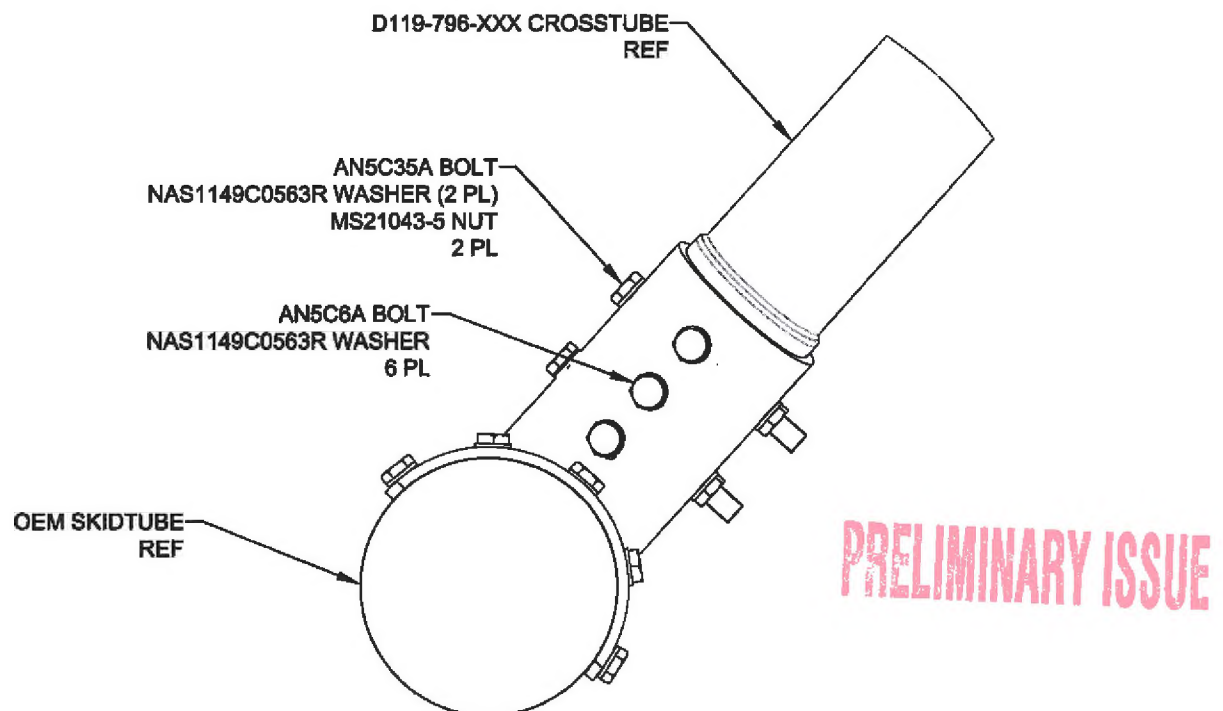

Figure 3.2 – Installation of D119-796-XXX Crosstubes to OEM Skidtubes
- 3.1.2 For installation with OEM skidtubes/saddles loosely install an additional (qty 6) AN5C6A Bolts and (qty 6) NAS1149C0563R Washers per saddle as shown in Figure 3.2.